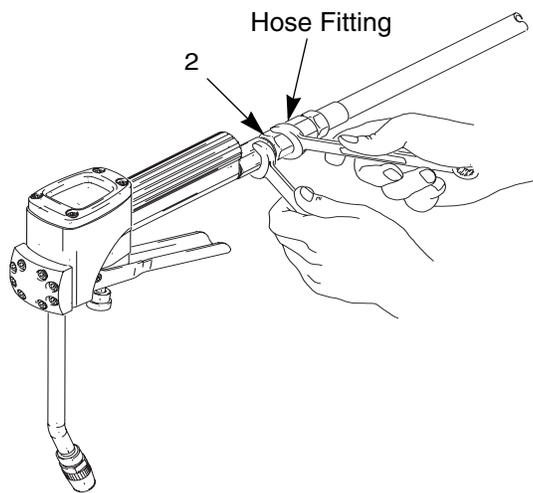

Fig. 2
- Apply thread sealant to the male threads of the hose fitting, thread the hose fitting into the fitting (2) of the Accu-Shot, and tighten firmly. See Fig. 2.